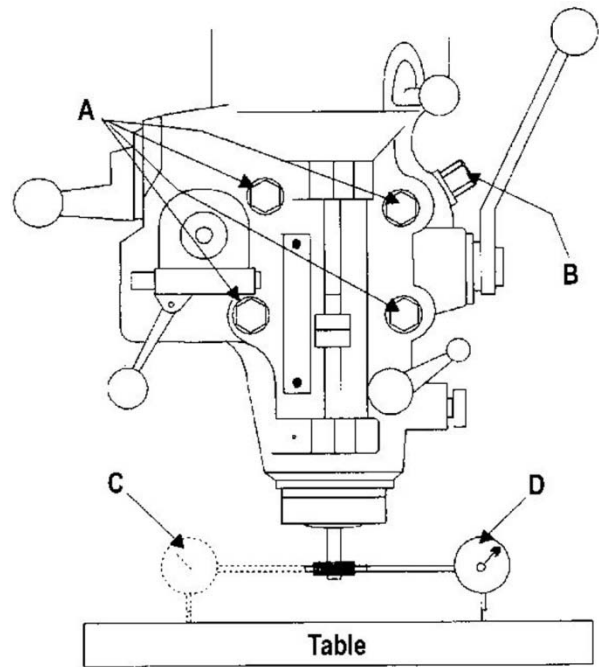

Figure 9
1. Loosen four large hex nuts (A, Figure 9) that secure mill head to ram adapter. One-quarter (1/4) turn should be sufficient to allow head to move.
2. Turn worm nut (B, Figure 9) to tilt head left or right as required. Use scale on ram adapter to establish angle.
5. Set up a dial indicator in a collet (see Figure 9) and secure using draw bar.
- Set up a dial indicator in a collet and secure using draw bar (refer to Figure 9).